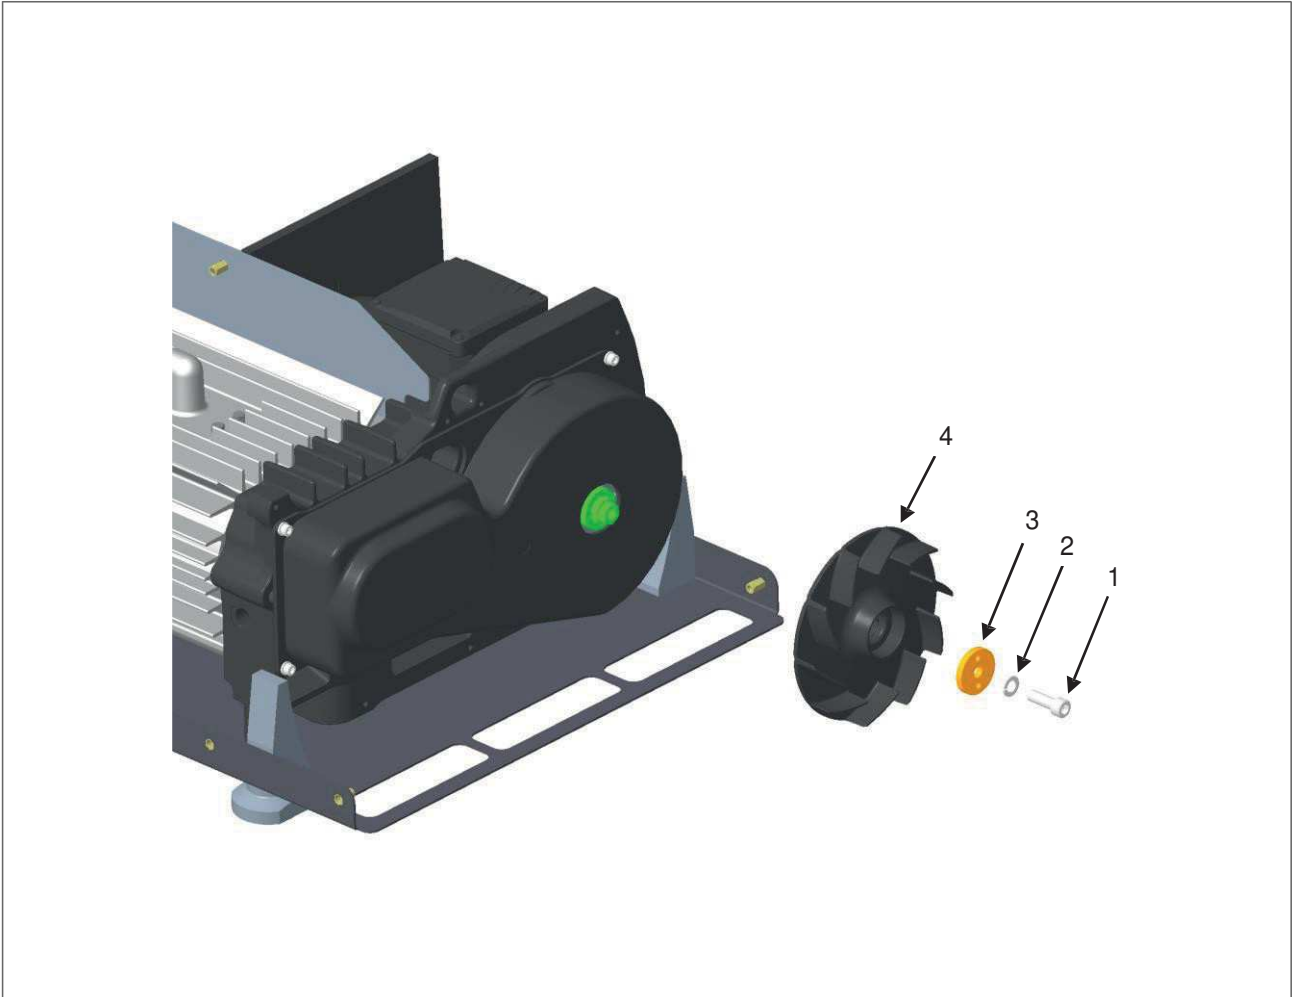

Figure 13 – Fan assembly
1. Assemble the fan (Figure 13, Item 4) by sequence as shown in figure i.e. (Figure 13, Item 4,3,2 and 1) using 8mm Allen key.